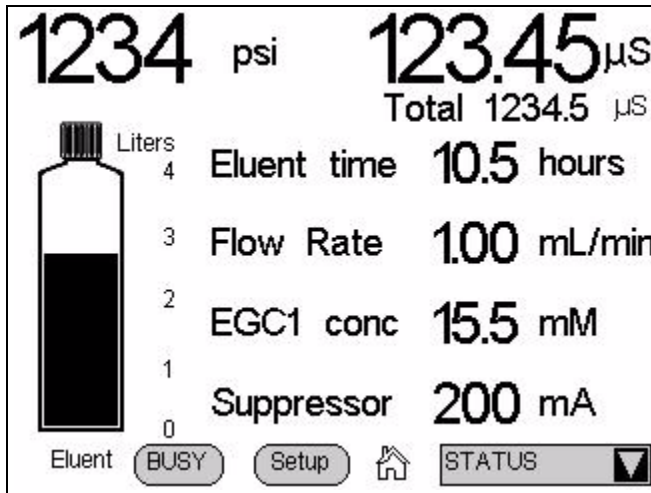

Figure B-9. Status Page
- The fields to the right of the bottle display the status of four other operating parameters. You can choose from eight possible parameters to display here. Figure B-9 shows the default parameters: **Eluent time**, **Flow rate**, **EGC conc**, and **Suppressor**. To select different parameters, touch the **Setup** button. See Section B.6.1 for details about how to change the status parameters, and Section B.6.2 for a description of each parameter.